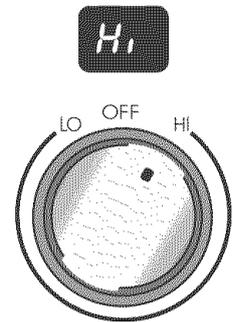

Fig. 3
2. Push in and turn the surface control knob in either direction to the desired setting using the ESEC digital display window to verify (Fig.3). Turn the knob to adjust the setting as needed.
Both the 30" and 36" cooktops are equipped with dual radiant surface elements located at the right & left front positions (See Figs. 1 & 2). Symbols around the knob are used to indicate which coil of the dual radiant element will heat. The ● symbol indicates that only the inner coil will heat (Fig. 3). The ⊙ symbol indicates that both inner and outer coils will heat (Fig. 4). You may switch from either coil setting at any time during cooking.